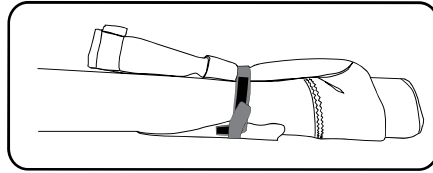

Fig. 7: After rolling, tuck the pad, then wrap with the tack strap and secure the velcro.
- After rolling the sail, tuck the pad so it rests along the sail, wrap the tack strap around the pad and the sail, then attach the velcro (fig. 7).